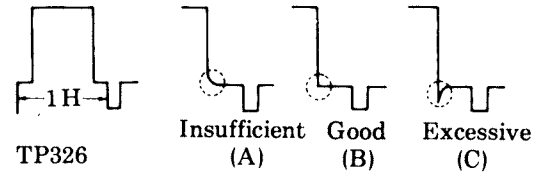

Fig. 29
3. Adjust R3276 so that the waveform becomes as shown in Fig. 29 (B).